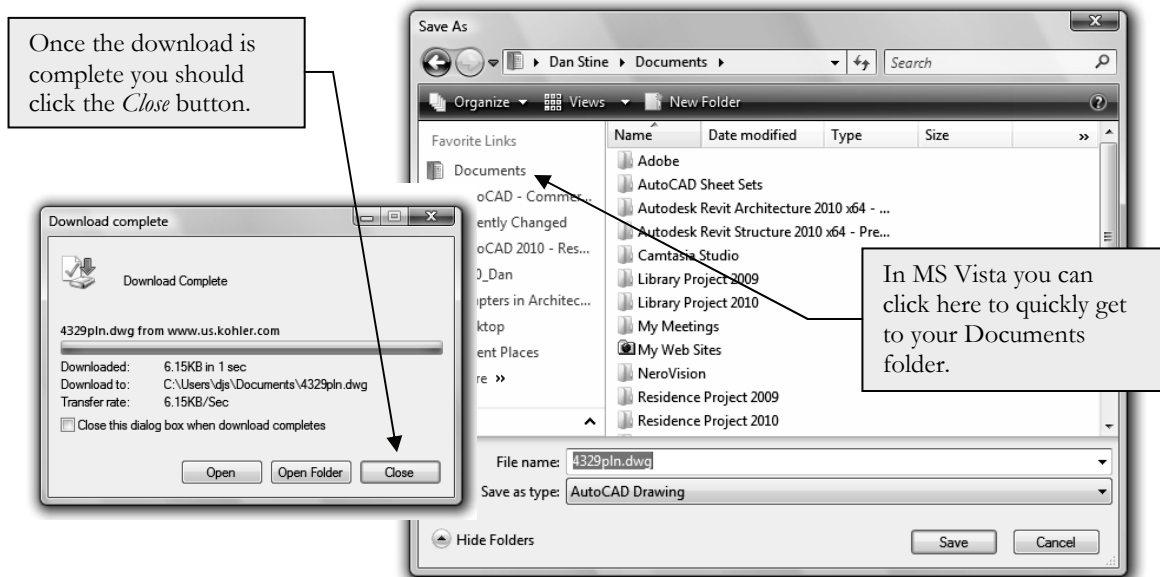

FIGURE 4-1.4B Saving a file from the Internet
- Browse to your **Documents** folder (Vista or Windows 7) or **My Documents** folder (Windows XP) and click **Save**; see Figure 4-1.4b.